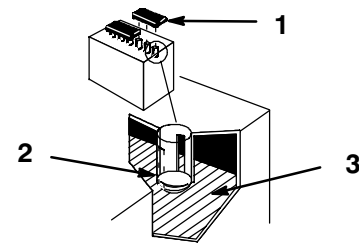

Figure 59
1. Open covers to see into the cells. The electrolyte must be up to the lower part of the tube (Fig. 59). Do not allow the electrolyte to get below the plates. (Fig. 59).
2. Lift off the filler caps (Fig. 59).
3. Slowly pour distilled water into each battery cell until the level is up to the lower part of the tube (Fig. 59).